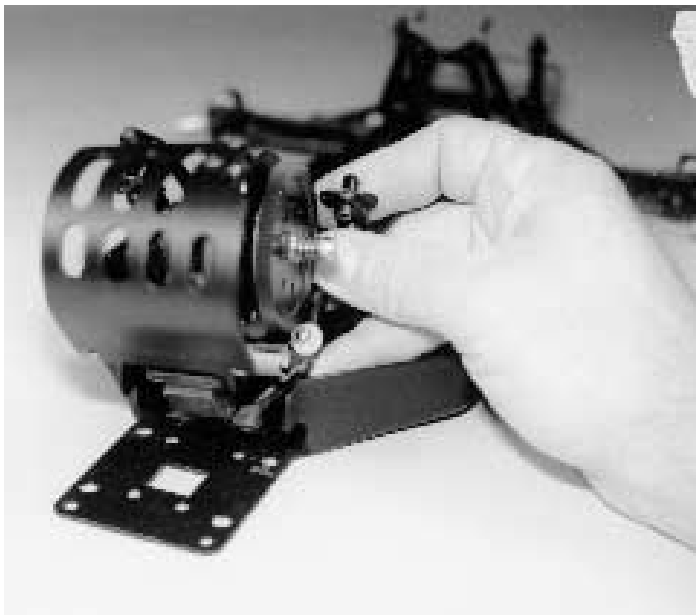
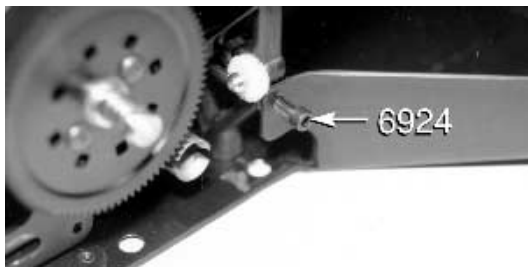
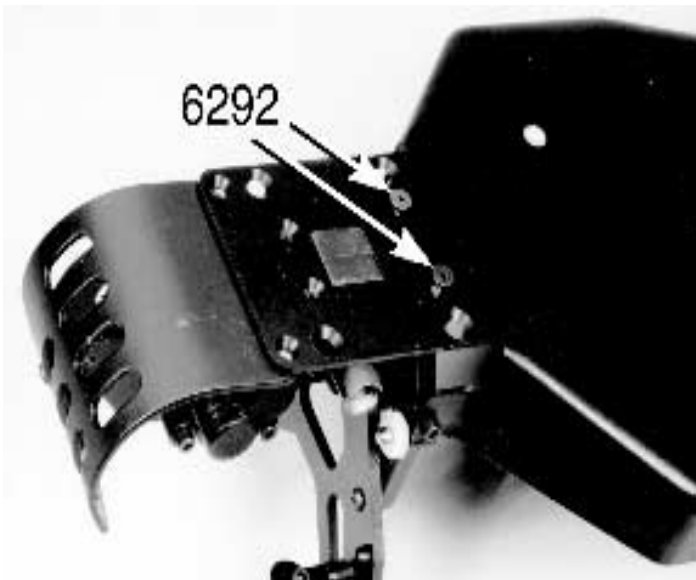

Fig. 90
Fig. 91
Fig. 92
□ **Figs. 90, 91, & 92** Now we can secure the rear end assembly to the chassis. From bag #7-4 remove two #6292 4-40 x 3/8" FHSScrews and two #6924 4-40 x 3/8" SHCScrews. Look at the bottom of the transmission case. You will see that there is a raised square molded into the bottom of the case. Now look at the chassis and you will see that there is a matching square hole at the back that matches the one on the transmission. Place the transmission and bulkhead assembly on top of the rear of the chassis. Line up the square on the bottom of the transmission case with the square hole in the chassis. The bulkhead will be to the front and the motor guard will be the back of the chassis. This will place the rear bulkhead between the two tabs on the raised sides of the chassis. Take the two #6924 SHScrews and secure the rear bulkhead to the sides of the chassis as shown in fig. 91. Do not tighten the screws all the way just yet. Now turn the chassis upside down and secure the bottom of the chassis to the rear bulkhead using the #6292 FHSScrews as shown in fig. 92. Again leave these loose for now. We have now secured the rear bulkhead to the chassis.
that we have the transmission and motor guard secured we can now go back and tighten all of the screws in figs. 91 & 92.